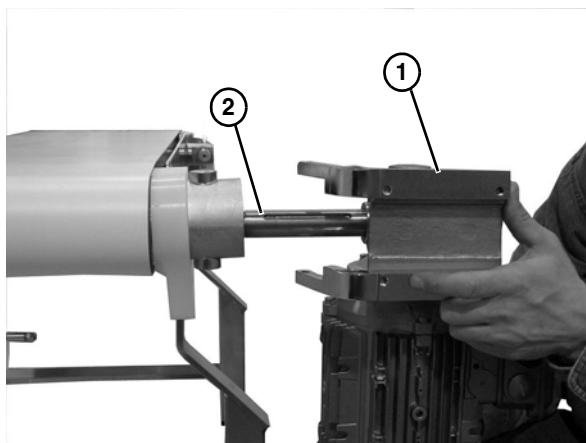

Figure 10
2. Slide the gearmotor assembly (Figure 10, item 1) onto the drive spindle (Figure 10, item 2).